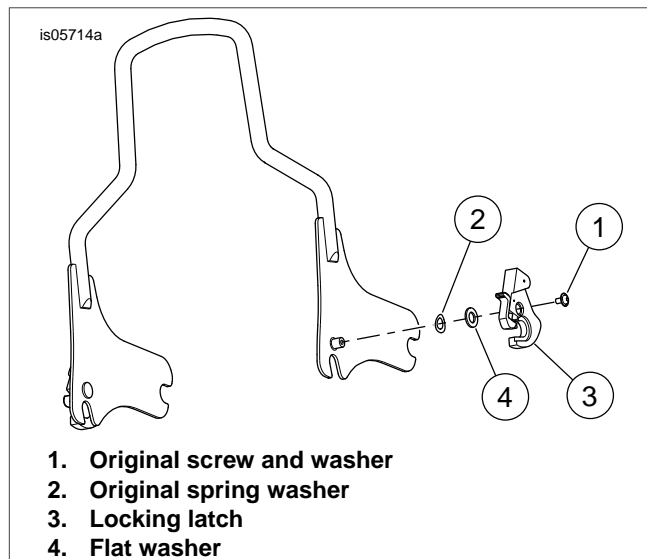
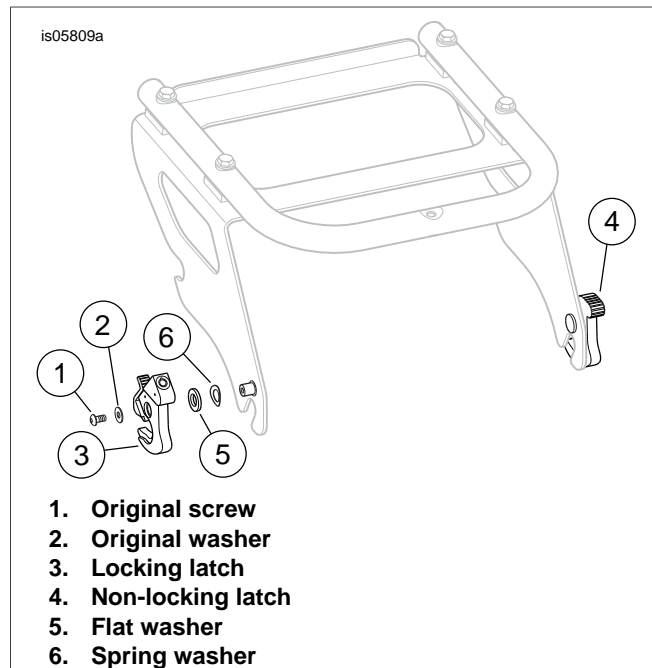

Figure 3. Outer Right Installation
Figure 4. Outer Left Installation
Two-Up Luggage Rack Kit	See Figure 4, Outer Left Installation, OR Figure 3, Outer Right Installation
Two-Up Tour-Pak Rack	See Figure 3, Outer Right Installation
Solo Luggage Rack Kit	See Figure 3, Outer Right Installation
2. See Figure 3. Install original spring washer (2) on mounting hub.
1. See Figure 4. Remove left non-locking latch and discard.
2. Install flat washer (5) from kit over spring washer on left mounting hub.
3. Install locking latch (3) on left mounting hub with relief **away** from the sideplate.
4. Install original screw (1) and washer (2).